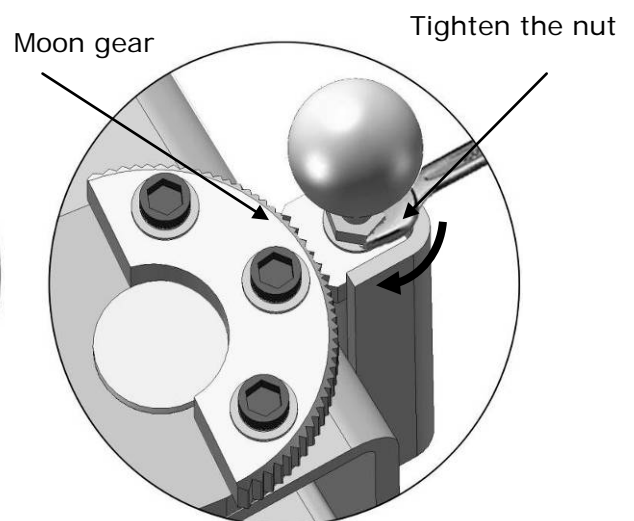

Fig. 25
4. Adjust moon gear and arm lock to make it to be meshed, then tighten the nut of arm lock (See Fig. 25).